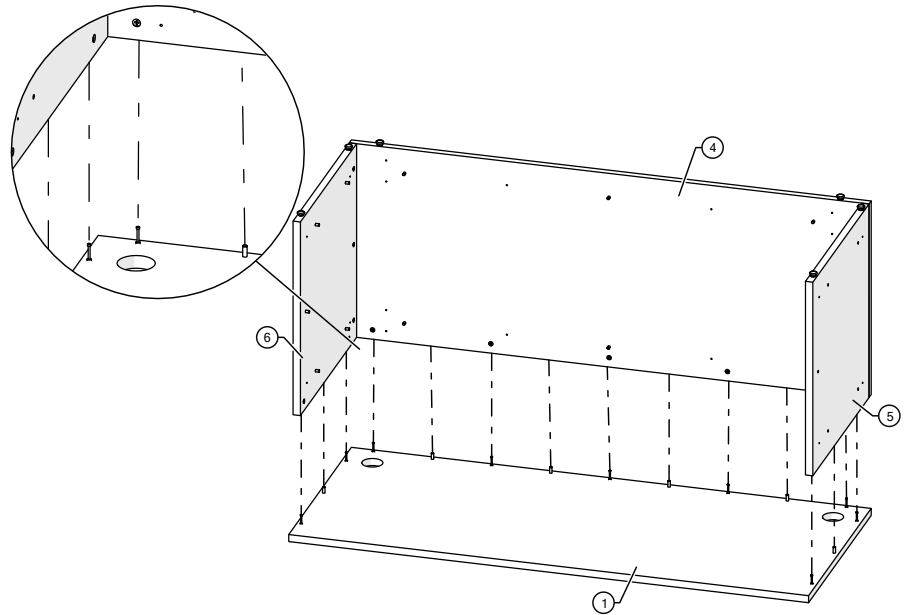

Figure 7
9. Connect the assembled unit (modesty, gable LH, and gable RH) to the worksurface, and then press tightly together by inserting the combi dowels and wooden dowels into the holes (Figure 7).